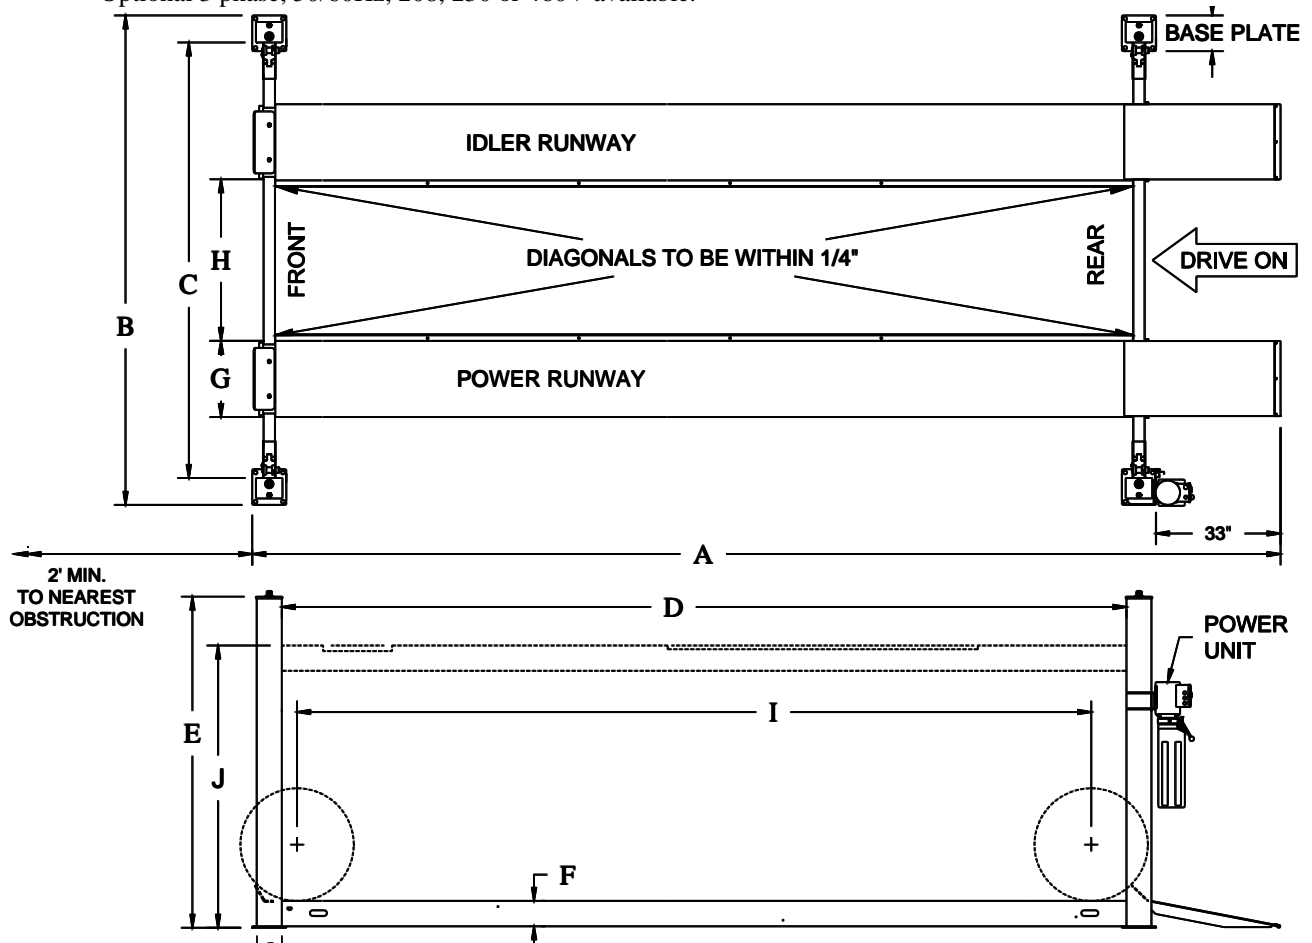
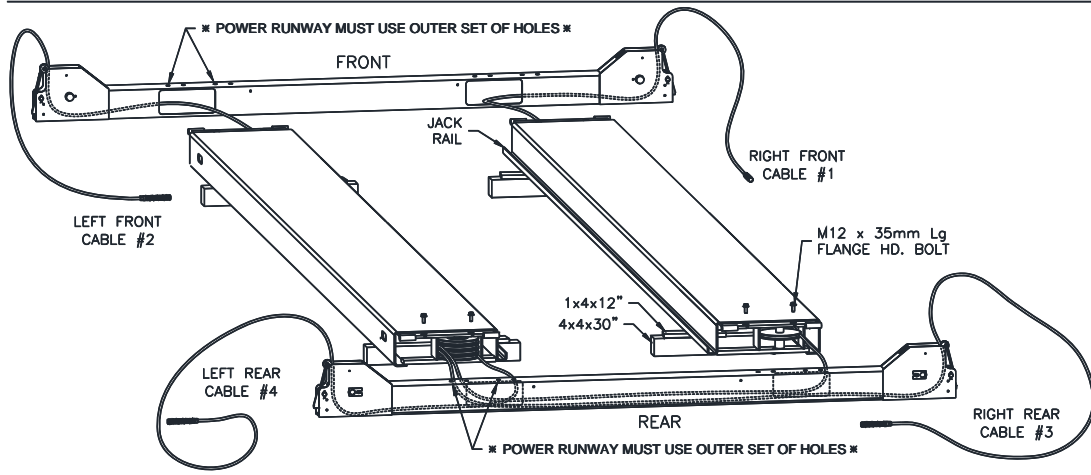

Fig 1 – General Specifications and Service Bay Layout
Fig 4 – Runway Layout
- 1) Lay out the service bay according to the architect's plans or owners instructions, **Fig 1**. Be certain that the proper conditions exist, see page 3.
- 3) Position runways on blocking (see Fig 4) per layout lines established in step 1. Use four 30" long 4x4's spanning the width of the runway and four 12" long 1x4's to shim up the jack-rail side
of the runway. Cable #1, #3, & #4 should be extending out from the rear of the power runway and cable #2 from the front of the power runway, Fig 4.
- 4) Position the front and rear cross beams, Fig 4. (Both cross beams are identical.)
- 5) Reach in through either of the access holes in the cross beam tube and pull out the roll of 4mm dia. plastic air line connected to the air cylinder at the end of the cross beam. Repeat for opposite access hole and position the cross beam near the end of the runways as in Fig 4.
- 13) Attach both cross beams to the runways (**Fig. 4**) with M12 x 35mm lg. flange head bolts (two at each end of each runway) being careful not to pinch the air line. Leave the air lines hanging out the bottom of the cross beam access holes at this time, they will be fed in through the runway after the lift is raised. **The outermost power runway slots should be in line with the outermost holes in the top of the cross beam, see Fig. 4.** The idler runway can be installed using the outer or inner sets of cross beam holes, see "Width Between Runways" dimension in **Fig. 1**. Do not torque bolts yet.